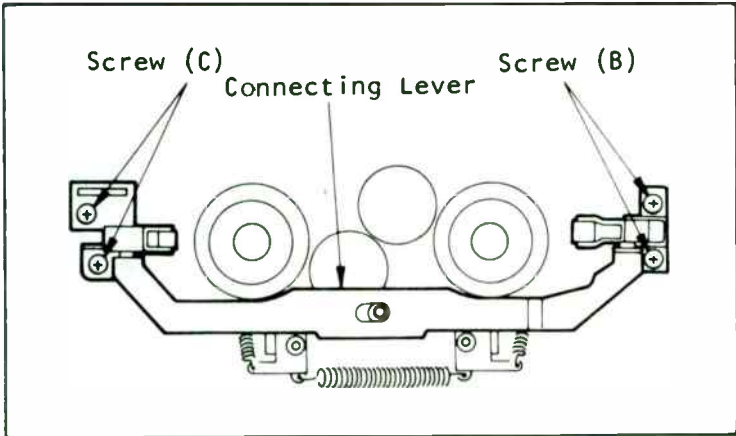

Fig. 10-27. Cassette arm units position adjustment (courtesy of Magnavox).
A cassette lock arm adjustment fixture (VFK0140) is required for this adjustment. Before you perform this adjustment, remove the eject link unit by removing screw (A). Refer to Fig. 10-27.
2—Place the fixture over the reel tables, press and move the left end of connecting lever with your finger (this moves the base of the cassette arm) so the roller on the cassette arm (right side) just touches the fixture or is less than 0.5 mm from the fixture. Now tighten the two screws (C). See Fig. 10-27.